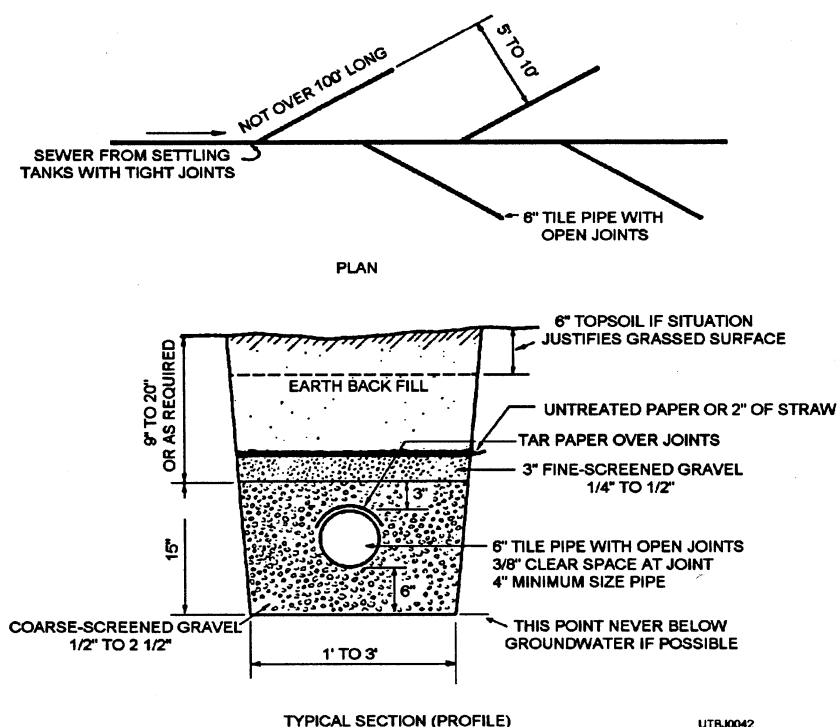

Figure 2-14.—Typical layout of a subsurface tile system.
Tile fields of lines made of concrete, clay, or PVC are laid in the ground with open joints or perforations to dispose of settled sewage into the ground. A fiber pipe (Orangeburg Alkacid) or plastic pipe with holes bored in the lower portion of the pipe to allow drainage may be used for these drain lines. This pipe is light in weight and is easily laid in the trench. It comes in sizes ranging from 2 inches to 8 inches in diameter and in lengths from 5 feet to 8 feet. Because of these long lengths, this type of pipe is particularly valuable in soil where other types of pipe may settle unevenly. Figure 2-14 shows a typical field layout.
**LAYOUT.**—The layout of the tile in the field should be designed carefully. Generally, the length of laterals should NOT exceed 100 feet. When tile is laid in sloping ground, distribute the flow so each lateral gets a fair portion. Flow must be prevented from discharging down the slope to the lowest point. Individual lines should be laid nearly parallel to land contours (fig. 2-14). Tile fields are laid out either in a herringbone pattern or with the laterals at right angles to the main distributor. The distance between laterals is three times the width of the trench. Distribution boxes to which the laterals are connected may be desirable. Trenches, 24 inches wide or more, are economical. When a trenching machine is practical on a large installation, base the design on the width of the trench excavated by the machine.